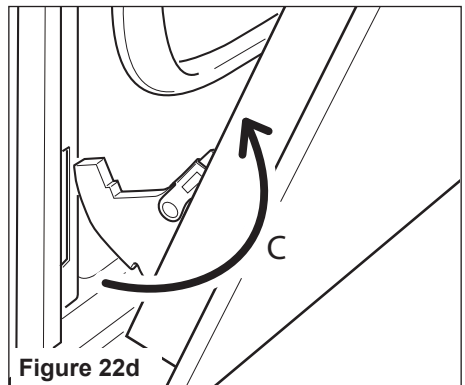

Figure 22d
- Withdraw the hinge hooks from their location following arrow “C” (fig. 22d).